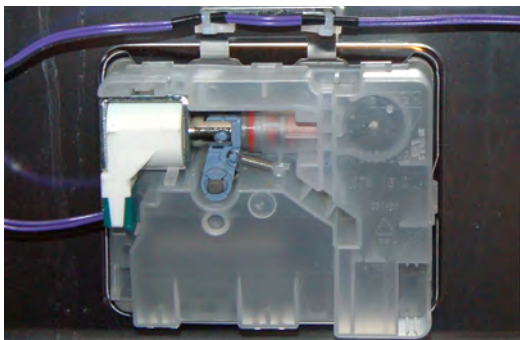

Figure 2 - Mini Dispenser
- 4b. **MINI DISPENSER:** Use a flat-blade screwdriver on locking clips to remove dispenser assembly (see Figures 2 & 4).